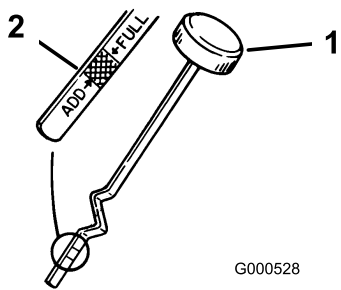

Figure 35
3. Unscrew the oil dipstick and wipe the end clean (Figure 35).